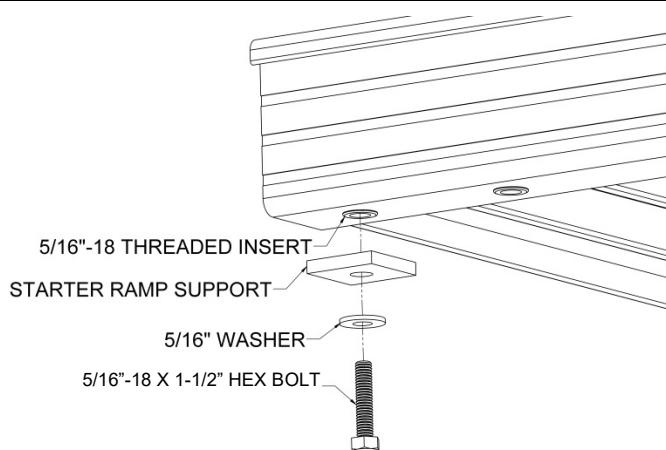

FIG. 4.1
4.1.1. Attach Starter Ramp Support to the 5/16"-18 threaded insert located on the underside of the first ramp run, using a 5/16"-18 x 1-1/2" hex bolt with 5/16" washer (FIG. 4.1).